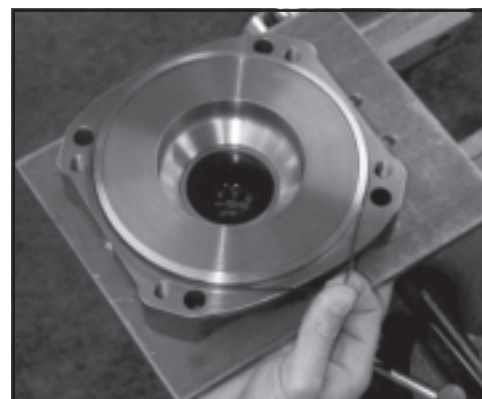

Figure A14
11. Install o-ring on piston housing. Ensure item #14, o-ring, is in place. Make sure O-Ring lays flat against flange. SEE FIGURE A14